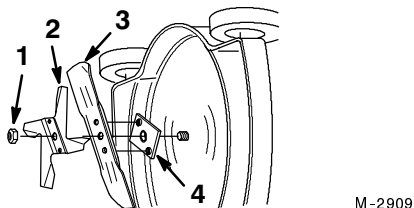

Figure 30
1. Remove the blade nut and the mulching fan (Fig. 30).
2. Remove the blade from the blade driver (Fig. 30).
1. Ensure that the blade driver is installed on the crankshaft. See Figure 30.
2. Install the blade over the lugs of the blade driver with the curved ends toward the housing (Fig. 30).
3. Install the mulch fan into the blade recess (Fig. 30).
4. Secure the blade with the blade nut (Fig. 30)